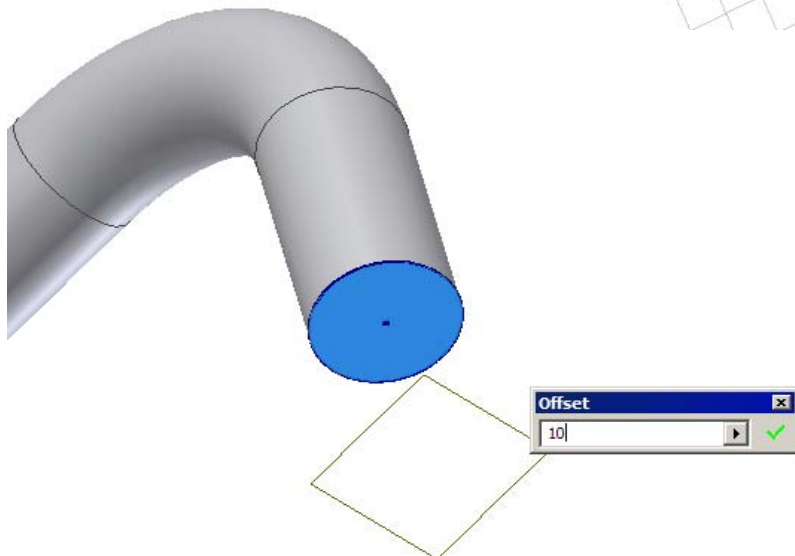

Figure Step 17
**Step 17** Create a work plane offset 10 inches from the end of cylinder. See Figure Step 17.